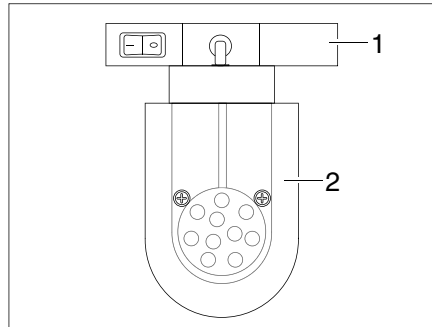

Fig. 145 LED spot light (example)
- Grasp the holder (Fig. 145,1) and turn it 90°.
- Remove the LED spotlight (Fig. 145,2) from the rail system.
- Insert the LED spotlight (Fig. 145,2) into the rail system at the desired position and turn 90°.